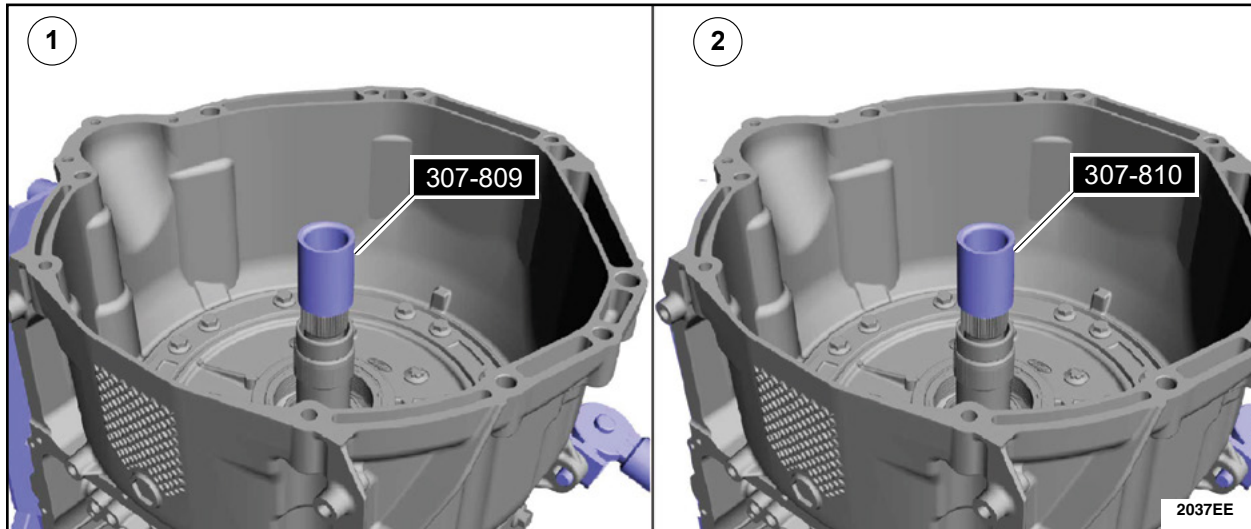

FIGURE 23
26. Using the special tool 307-809 and 307-810, size the input shaft torque converter Teflon® seals with a two step process. See Figure 23.